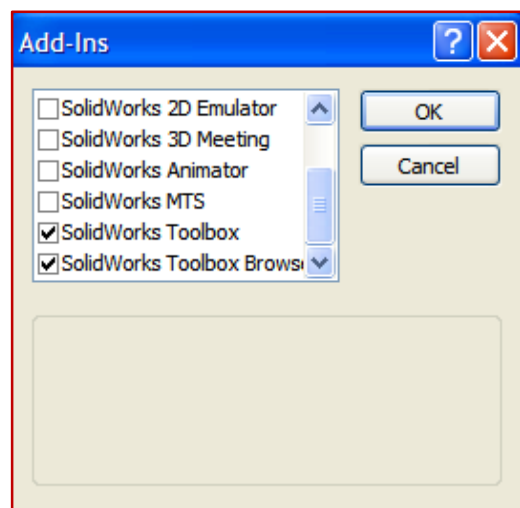

Figure 9.1 – Tools Add-Ins
Step 75: To make the toolbox available, click **Tools→Add-ins** on the **Main Drop-down Menu** or click **Options→Add In** in the **Quick Access Toolbar** to get the menu in Figure 9.1. Verify that **Toolbox** and **Toolbox Browser** have a check mark.